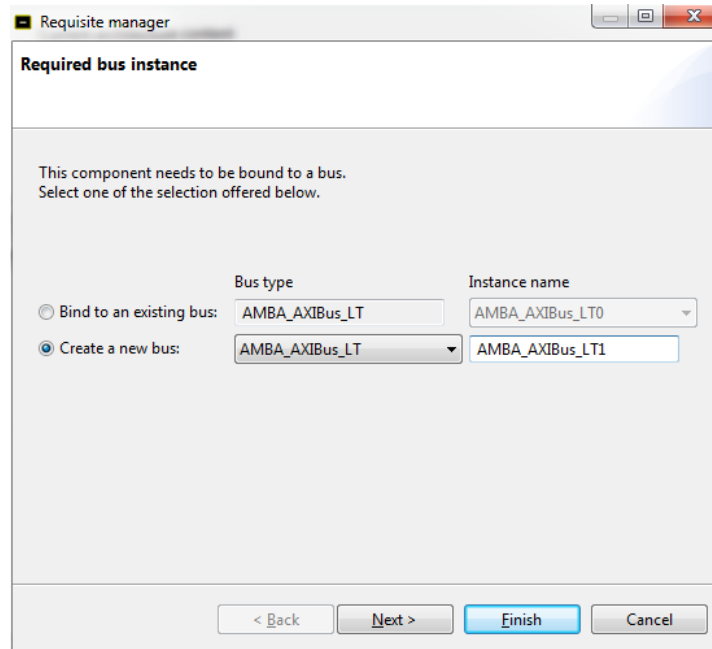

Figure 4: Selection of a second bus
4. A window will appear asking if you want to bind the μ Blaze on the existing bus (**AMBA_AXIBUS_LT0**) or create a new bus. This time, select **Create a new bus** (**AMBA_AXIBus_LT** as **Bus type** and **AMBA_AXIBus_LT1** as **Instance name**, see Figure 4) and click **Finish**.